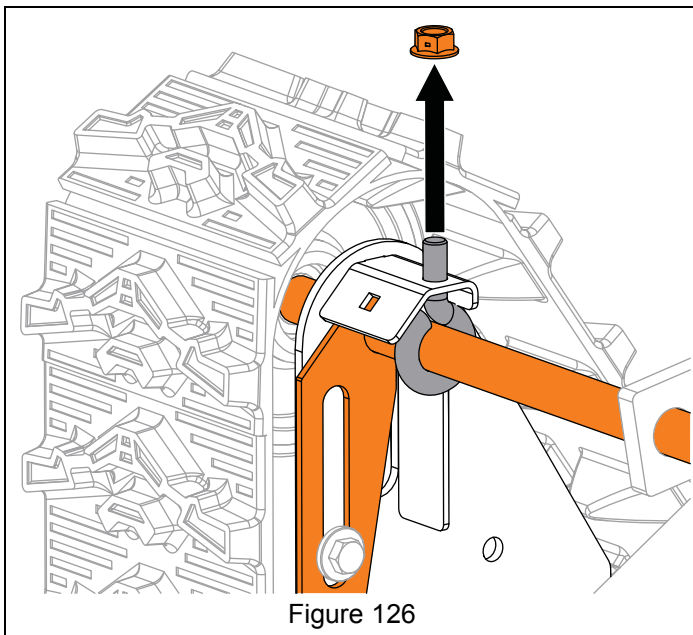

Figure 126
4. Remove flange nuts from eye bolts around rear track axle to release track tension. See Figure 126.